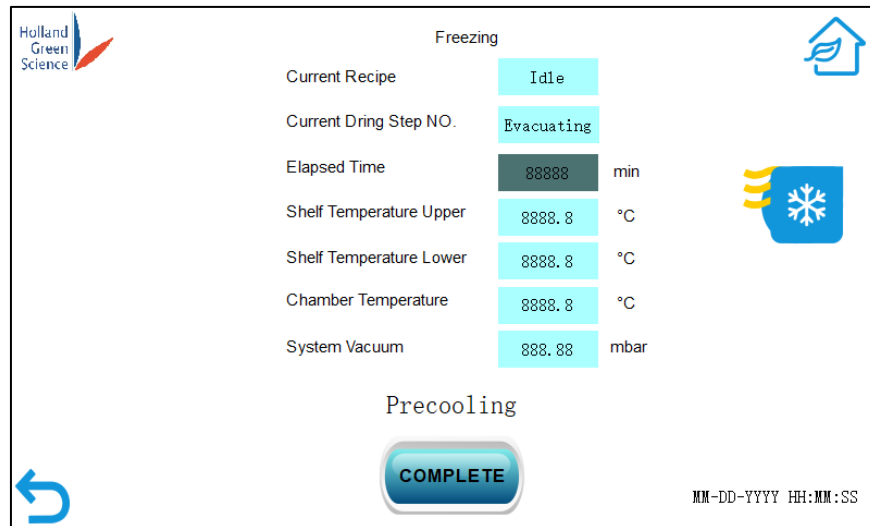

Figure 21
- The “Freezing” page displays real-time values of the shelf-temperature lower, chamber temperature, shelf-temperature upper and system vacuum (Figure 21).